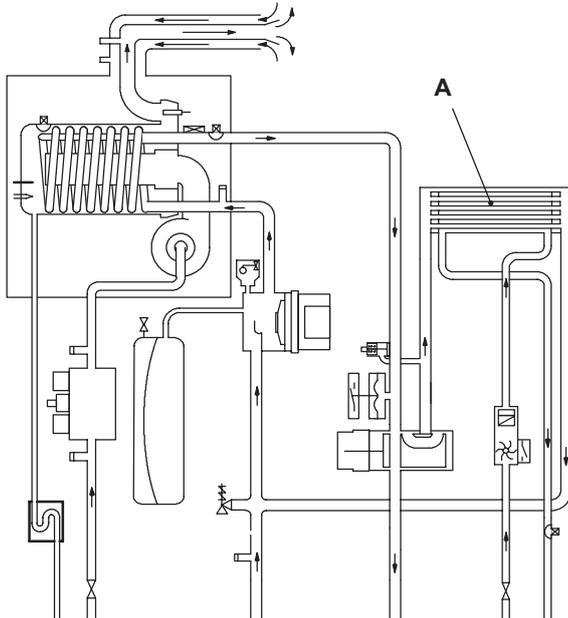
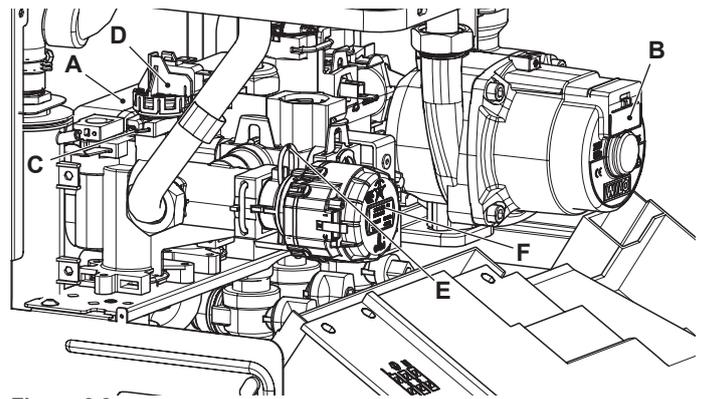

Figure 6.1
Figure 6.3
The d.h.w heat exchanger A in Figure 6.1 and Figure 6.3 allows the instantaneous transfer of heat from the primary hydraulic circuit to the water destined for d.h.w use.
- 3 Remove the pump B in Figure 6.3 (see section "Removal pump" page 15).